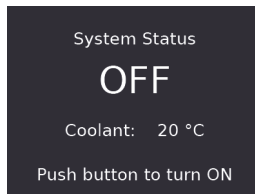

Figure 4-6 Standby screen
3. When power is connected, the Cooler enters standby mode and the indicator appears solid red. The LCD indicates the system status as OFF (see Figure 4-6 on page 143).